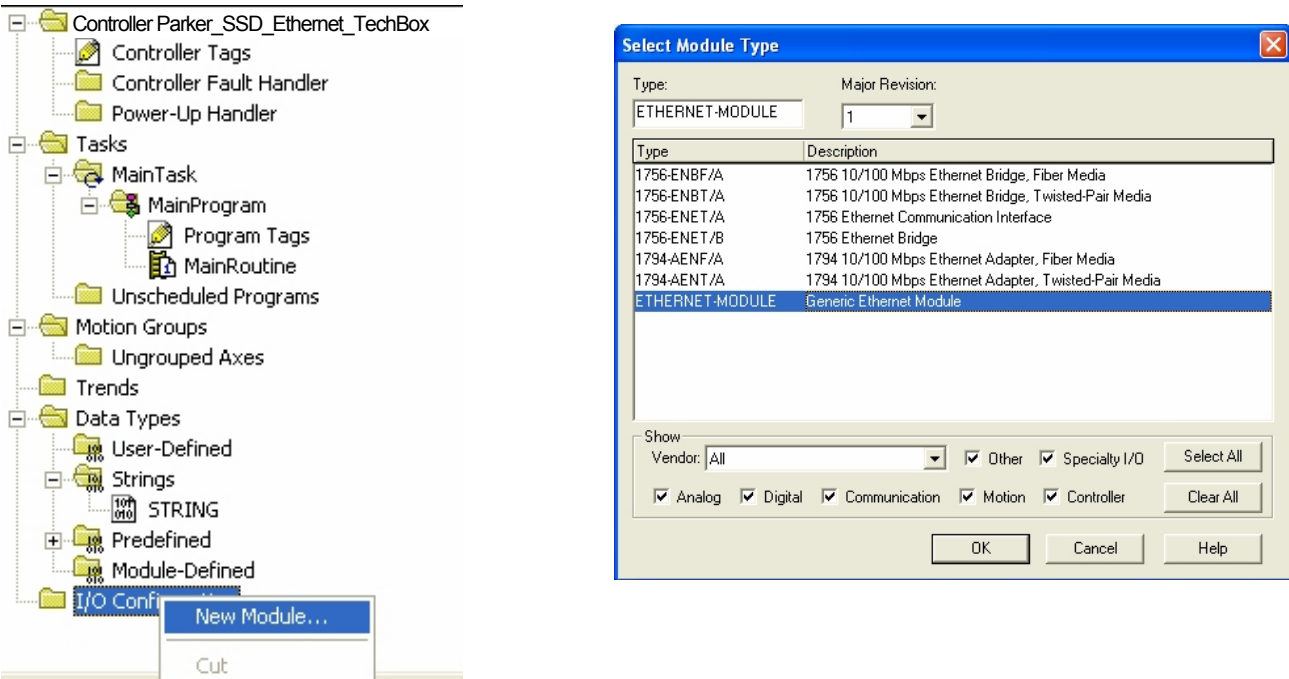

Figure 11. Generic Ethernet Module Select
11. Right click on the Ethernet Interface Module, select New Module. This screen will allow the selection of the Generic Ethernet Module. Refer to Figure 11.